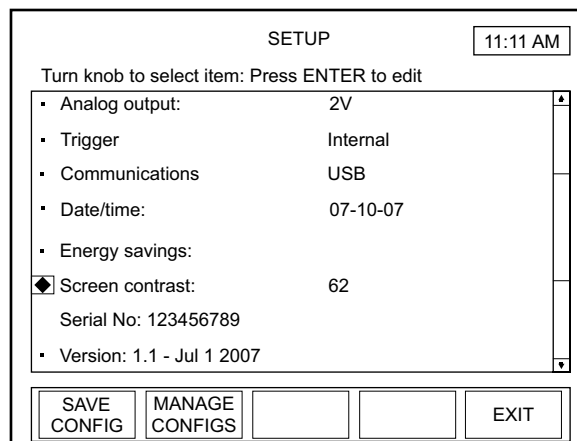

Figure 4-59. SETUP: Screen Contrast
1. On the main SETUP screen, turn the Selection knob to move the diamond indicator to Screen Contrast (Figure 4-59).